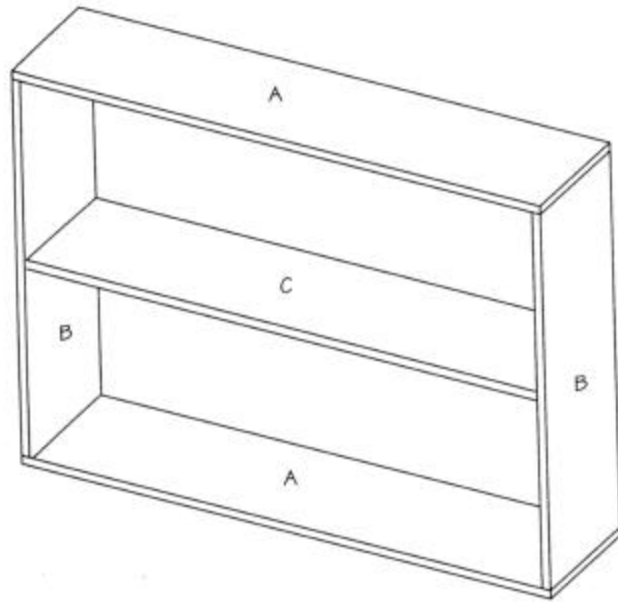

Figure 2
4. Cut one cabinet shelf (C) from 1 x 12 pine, measuring 46-1/2 inches long.
5. Center the cabinet shelf (C) between the two cabinet top/bottoms (A), as shown in *Figure 2*. Screw through the cabinet sides (B) into the ends of the cabinet shelf (C) using 1-1/2-inch screws. Use three screws on each joint.
6. Cut two cabinet top/bottom trims (D) from 1 x 4 pine, each measuring 48 inches long.